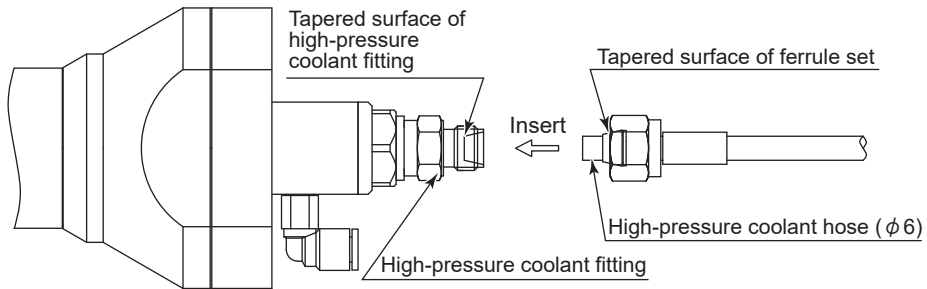

Fig. 22
- (1) Insert the high-pressure coolant hose (diameter $\phi 6$ mm) so that the tapered surface of the ferrule set fastened to the high-pressure coolant hose (diameter $\phi 6$ mm) fits tightly against the tapered surface of the high-pressure coolant fitting. (Fig. 22)